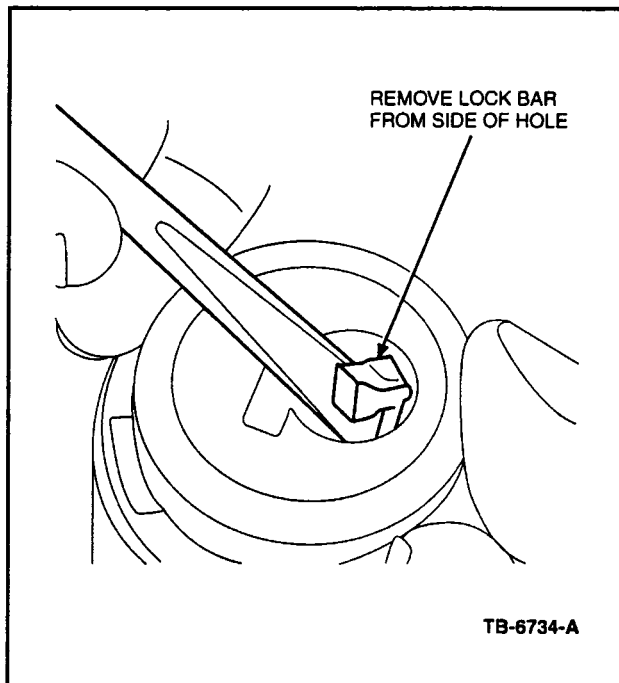

Figure 8 - Article 02-18-2
6. Remove lockbar from side of the hole. Rotate ILC while depressing retainer pin on the housing and pull out (Figures 8, 9, and 10).